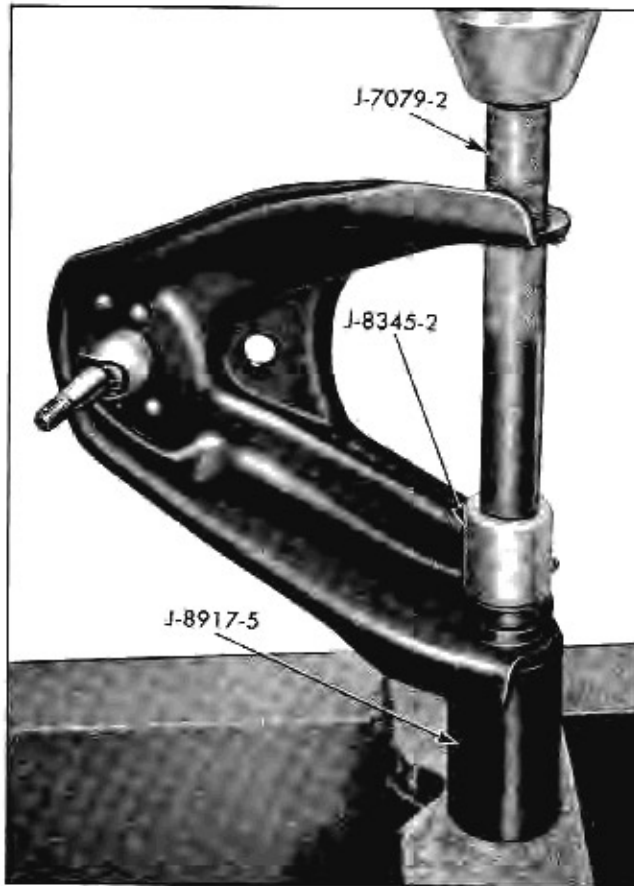

Fig. 3-24 Installing Control Arm Bushing
1. Set control arm in place on Tool J-8917-5. Using Tool J-7079-2 and J-8345-2, press control arm bushing into place. Start with the bushing that has to be installed from the inside of the arm. (Fig. 3-24).